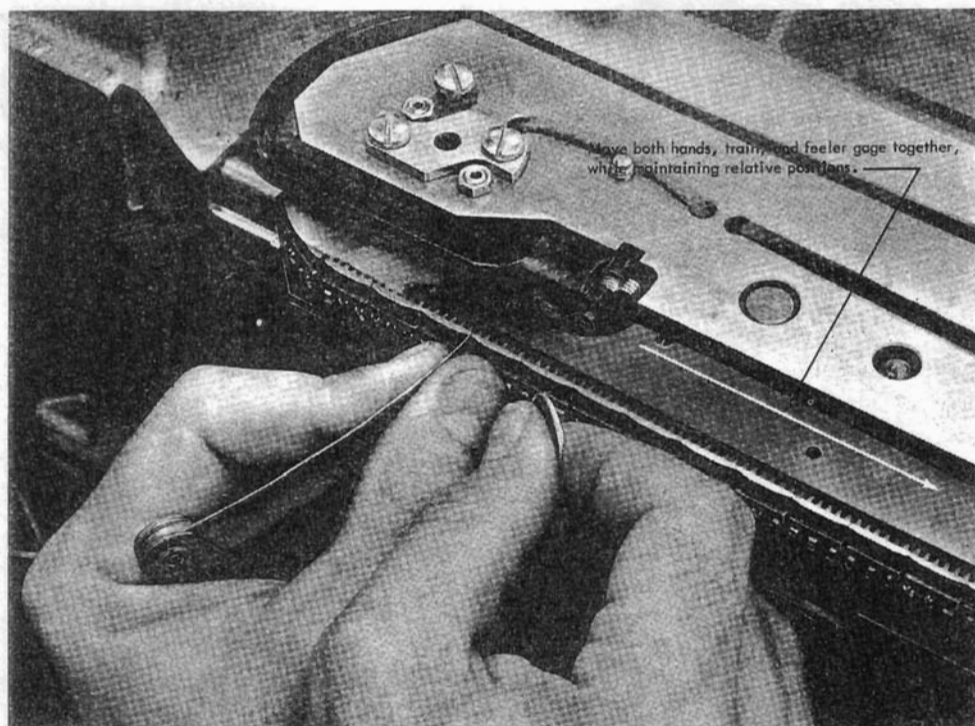

Figure 77. Method of Checking Accumulated Interslug Gap
3. With the feeler gage held between the slugs, move the train to the right across the straight section of the track. Figure 77 shows how to do this by engaging the adjacent slug to the right with the coin.